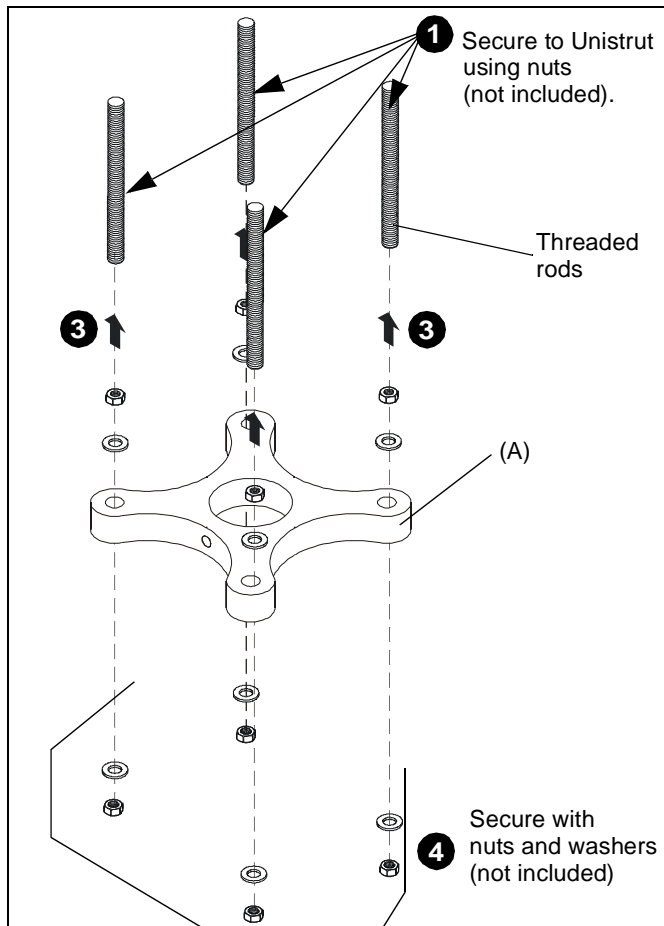

Figure 5
4. Secure the threaded rods to the CMA101 with one 5/16" nut (not included) and one 5/16" washer (not included) on each threaded rod. (See Figure 5)